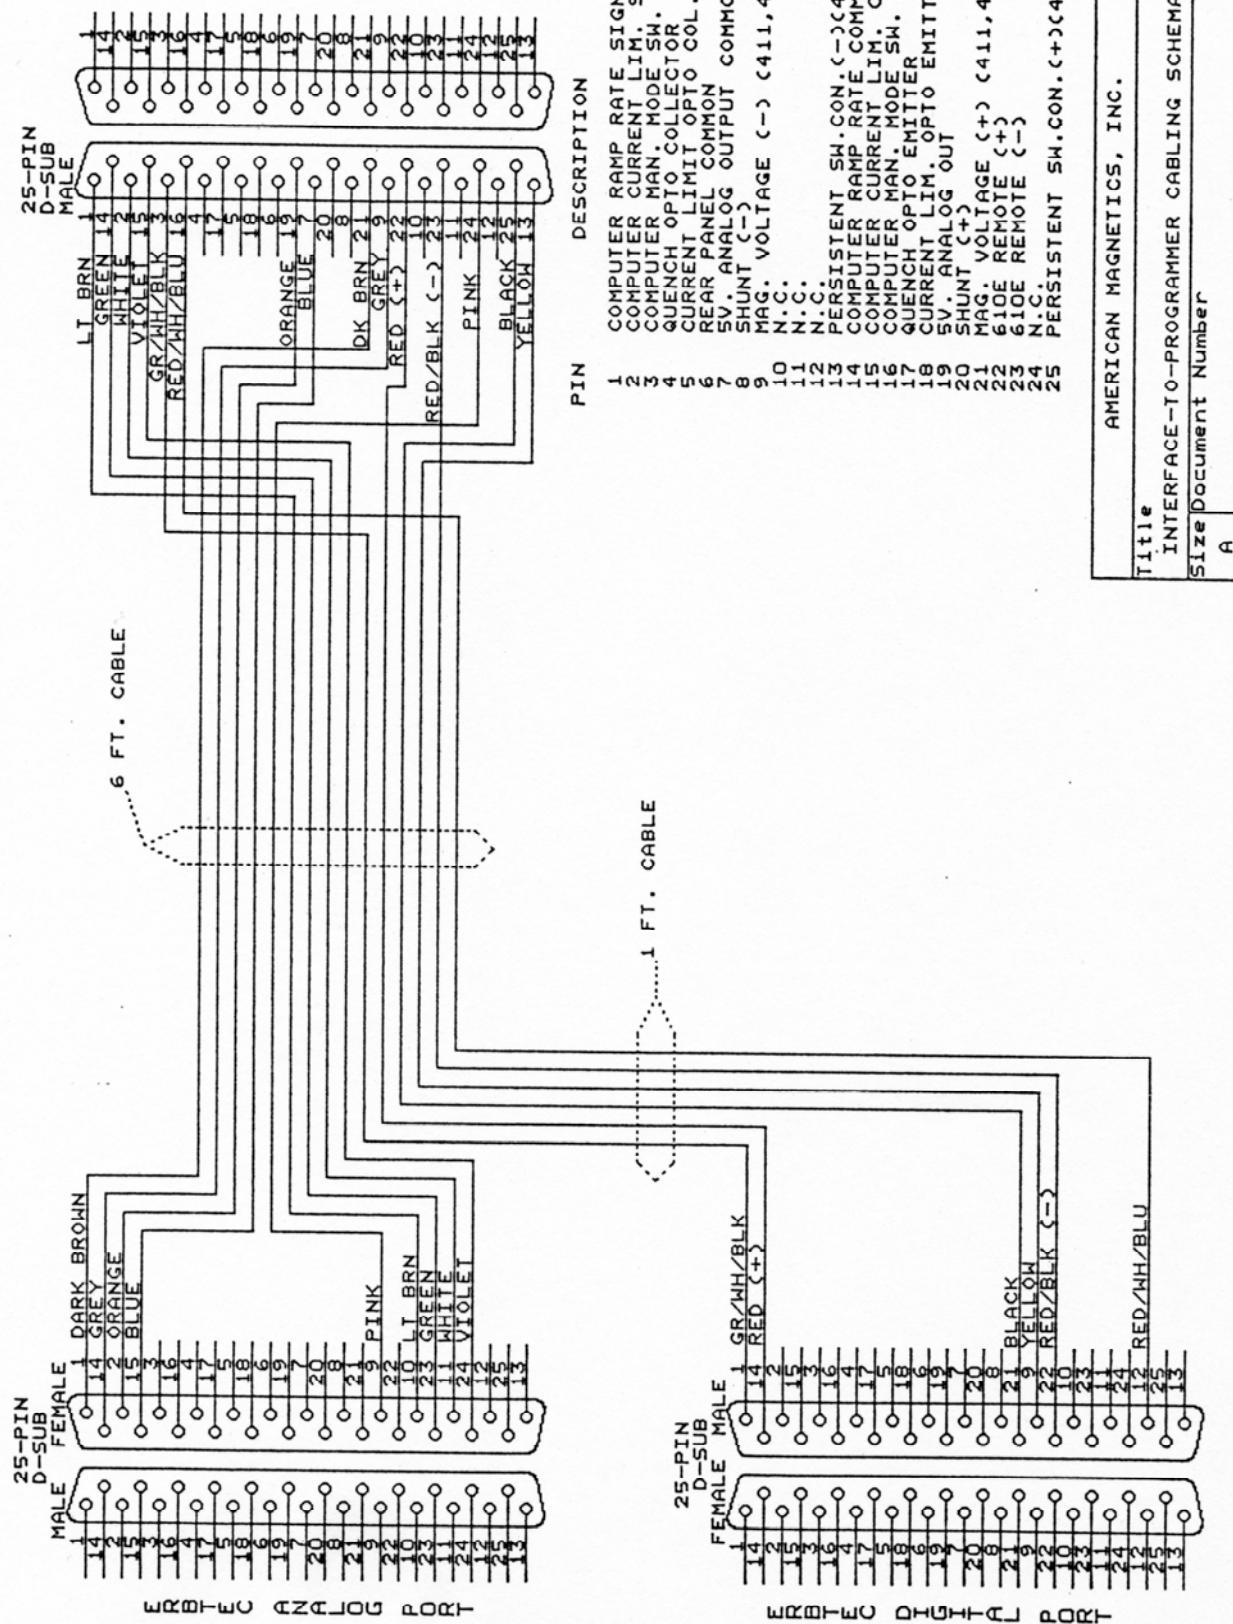

Figure 6.
12. Connect an appropriate computer interface to the rear panel computer control connector J5. Two analog inputs and one analog output minimum is required for computer operation (optional). A pin out of the 25 pin D-connector appears in Figure 6.
- a. Connect a cable from your computer interface to the Computer Control connector on the back of the programmer. The pin connections to the programmer are shown in Figure 6.